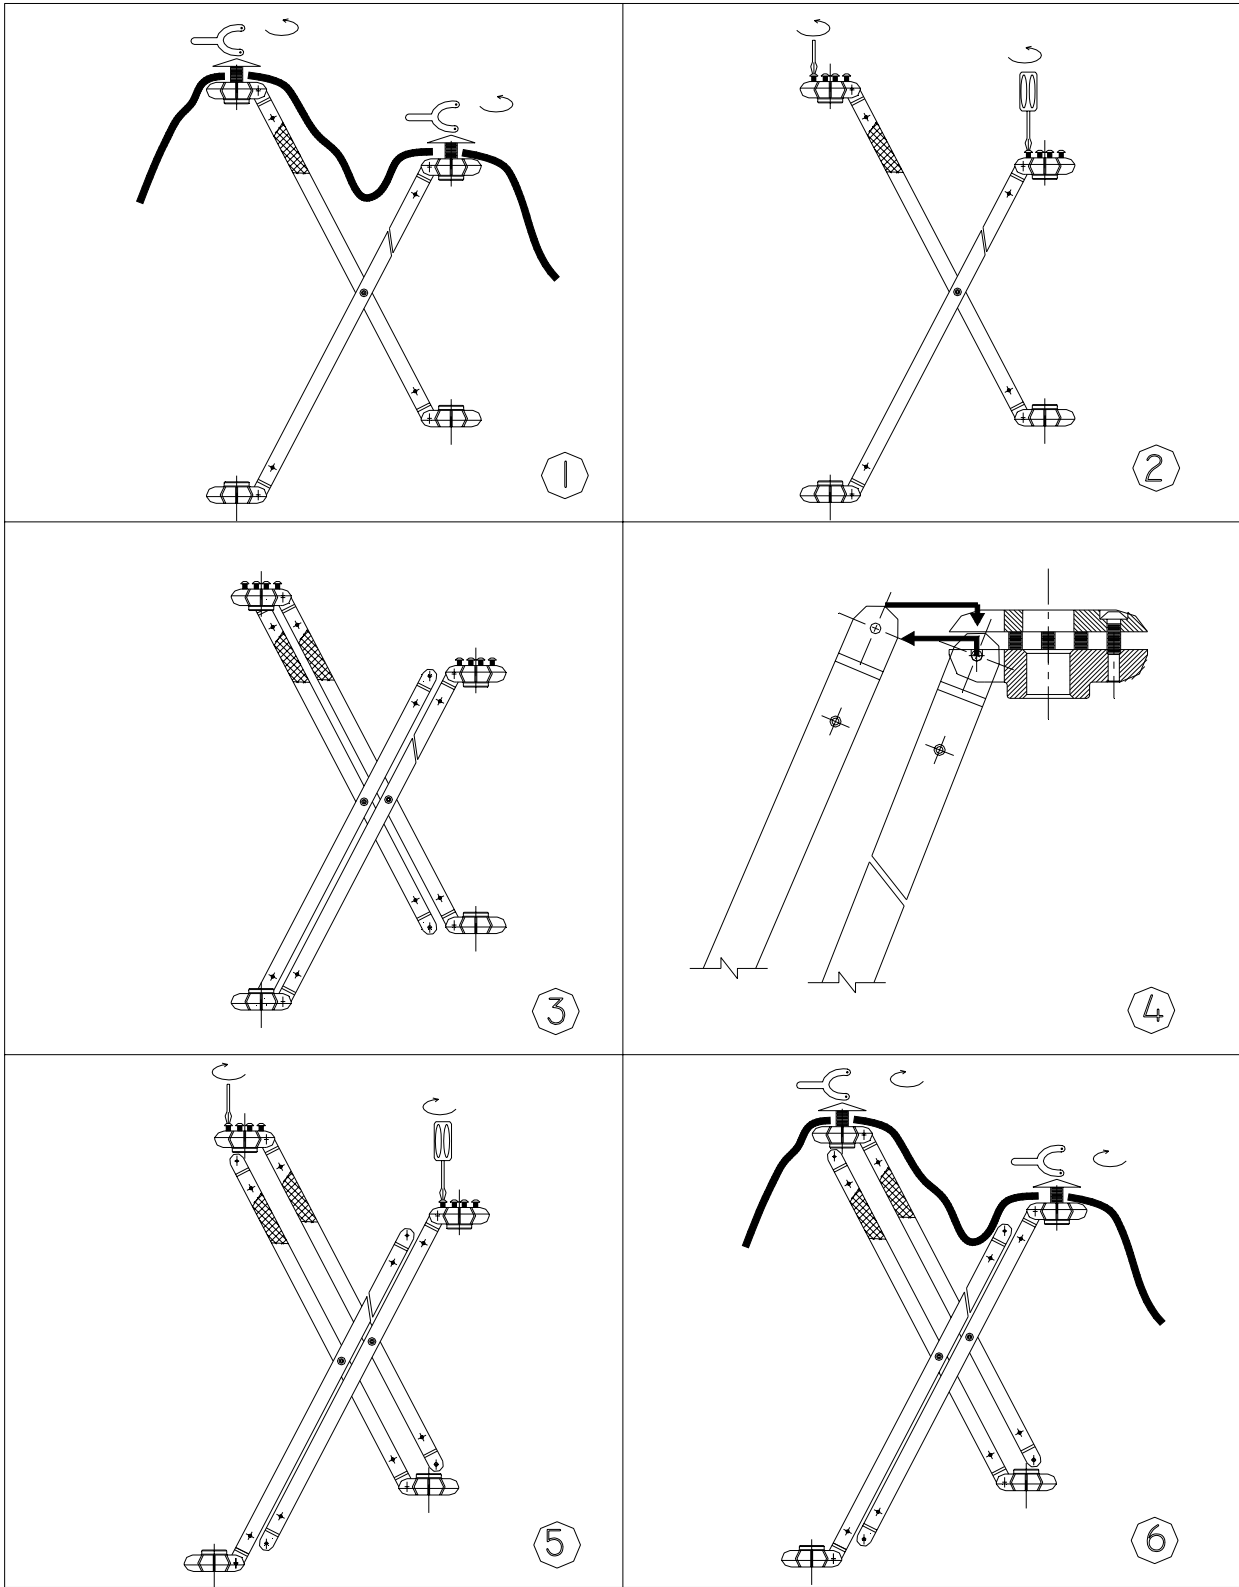

Figure 4-2. Replacement of Strut Pairs
2. Remove the keepers from the cover by using the spanner wrench (see Figure 4-2, Frame 1).
3. Loosen all screws from the exterior hubs at the damaged strut pair connection using the ratchet screwdriver. **Do not remove damaged strut pair from the hubs at this time** (see Figure 4-2, Frame 2).
5. Place the replacement strut pair next to the damaged strut pair to ensure that both color plugs and scissor pins match exactly (see Figure 4-2, Frame 3).
6. Properly position replacement pair; remove ends of damaged strut pair from exterior hubs and insert new strut pair. At this time, tighten all screws on the exterior hubs (see Figure 4-2, Frame 4 & Frame 5).
7. Insert the keeper and tighten by hand until snug. Tighten with the spanner wrench, ¼ turn past hand tight. **Do not over-tighten**. All seams should be aligned; the fabric circles around the keepers should not be twisted (see Figure 4-2, Frame 6).